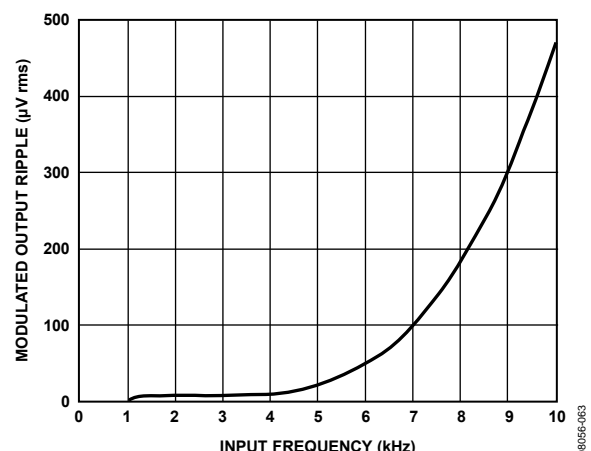

Figure 60. ADA4051-1/ADA4051-2 Modulated Output Ripple vs. Input Frequency
The remaining voltage ripple originates from two sources. The first type of ripple is due to the residual ripple associated with the initial offset of the Gm1. It is proportional to the magnitude of the initial offset and creates a spectrum at the chopping frequency ( $f_{\text{CHOP}}$ ). When the amplifier is configured as a unity-gain buffer, this ripple has a typical value of  $4.9 \mu\text{V rms}$  and a maximum of  $34.7 \mu\text{V rms}$ . The second type of ripple is due to the intermodulation between the high frequency input signal and the chopping frequency. This ripple depends on the input frequency ( $f_{\text{IN}}$ ) and creates a spectrum at frequencies equal to the difference between the chopping frequency and the input frequency ( $f_{\text{CHOP}} - f_{\text{IN}}$ ), as well as at frequencies equal to the summation of the chopping frequency and the input frequency ( $f_{\text{CHOP}} + f_{\text{IN}}$ ). The magnitude of the ripple for different input frequencies is shown in Figure 60.
- No effect on the desired input signal as long as its frequency is much lower than the chopping frequency shown in Figure 60